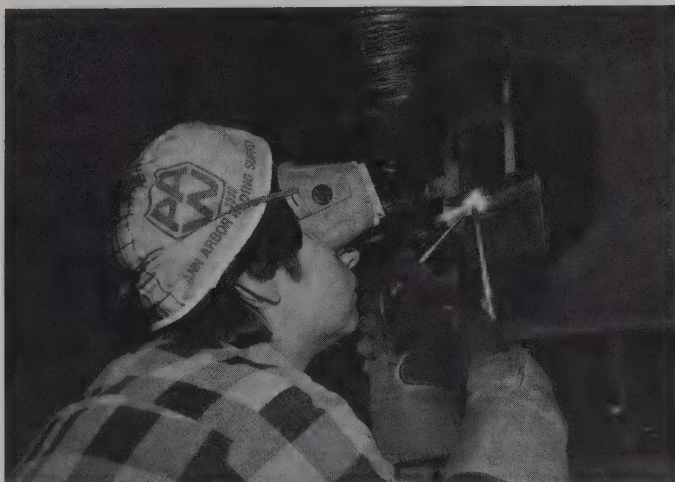

Fig. 7-25. Placing a fillet weld on a T-joint in the overhead position.
Welds made in the overhead position are usually made with a forehand motion. Right-handed welders work from right to left. See Fig. 7-25.
3. Place the metal together as shown in Fig. 7-25. Use a weld positioner to place the weld axis into the overhead position.